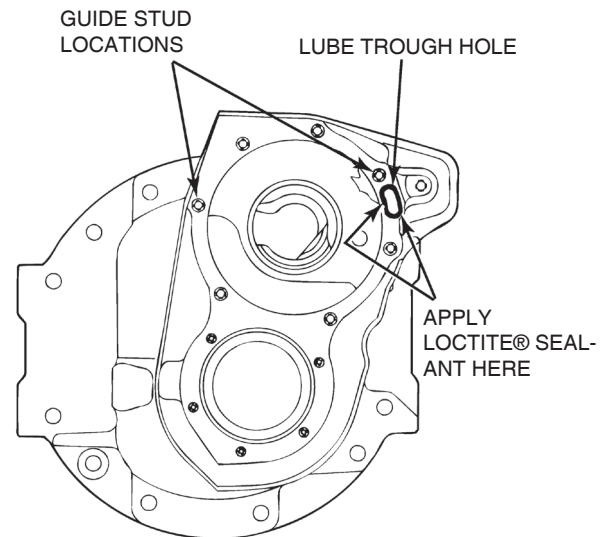

Figure 5.87
- B. Spray Loctite® Primer N sealant on the bearing cage and differential cage faces around the perimeter of the lube trough hole at the two o'clock position. Figure 5.87. Allow the primer to dry three to five minutes.
- C. Carefully apply Loctite 518 sealant to the the bearing cage and differential cage faces around the lube trough hole. Avoid allowing any excess Loctite® sealant accumulation in the bearing cage bore. Figure 5.87.